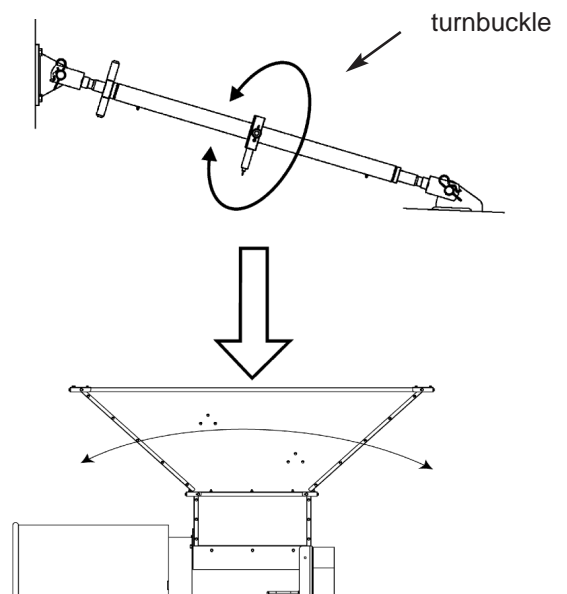

Figure 16 - Bagging machine leveled by means of the turnbuckle
12) Using the adjustment ratchet, level the machine taking as an approximate reference the upper rim of the grain receiving hopper as shown in Figure 16. If it were necessary to change the turnbuckle rotation direction, turn the lock latch 180°. This way, the correct tray-ground clearance is achieved and the tray is horizontal.